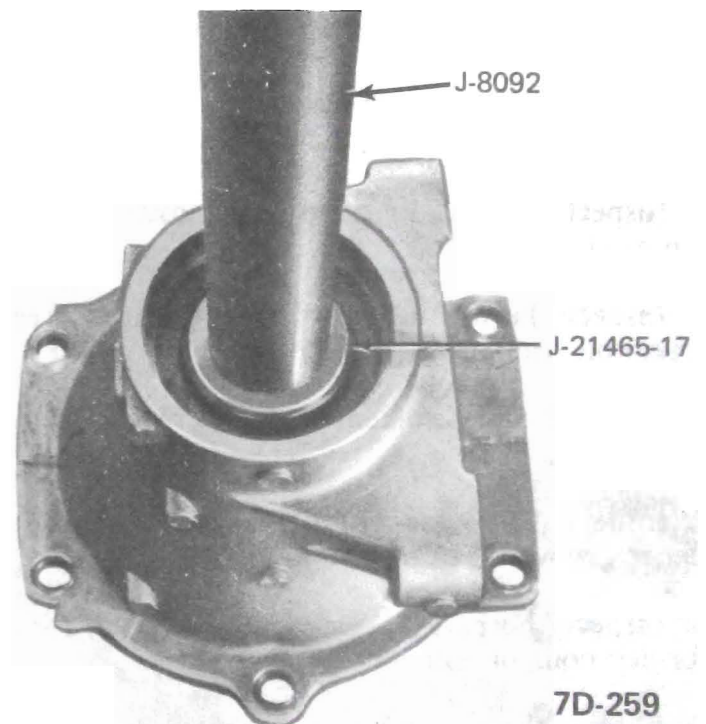

Figure 7D-259
a. Using Drive Handle J-8092 and Tool J-21465-17, remove bushing. See Figure 7D-259.
b. Using Drive Handle J-8092 and Tool J-21465-17, install bushing. See Figure 7D-259.
c. Using J-21465-10, stake bushing in oil grooves. See Figure 7D-260.